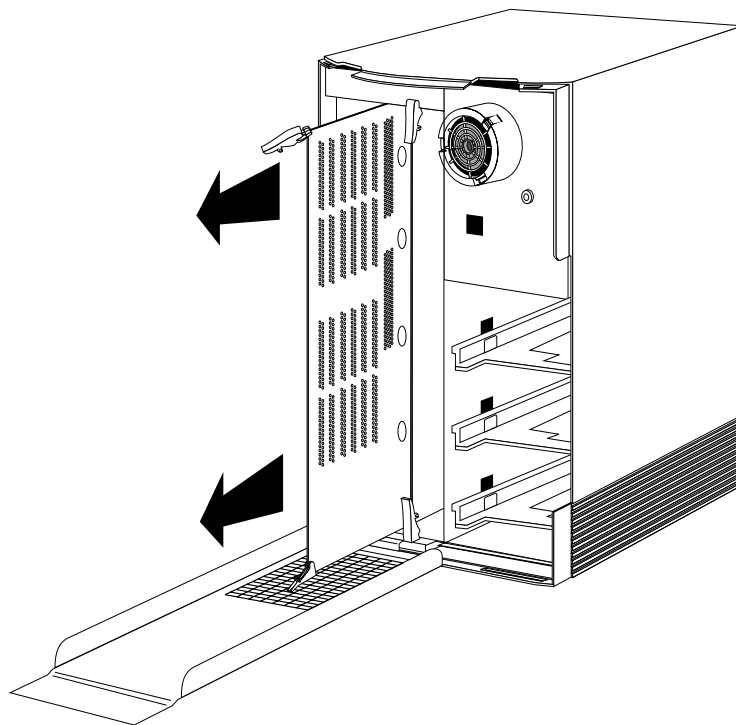

Figure 4 Removing the CPU Board From the Indigo Chassis
4. Remove the CPU board (See Figure 4).
- Pull the levers outward and toward you to release the board. The board slides out of the chassis as you continue pulling the levers, as shown in Figure 4.